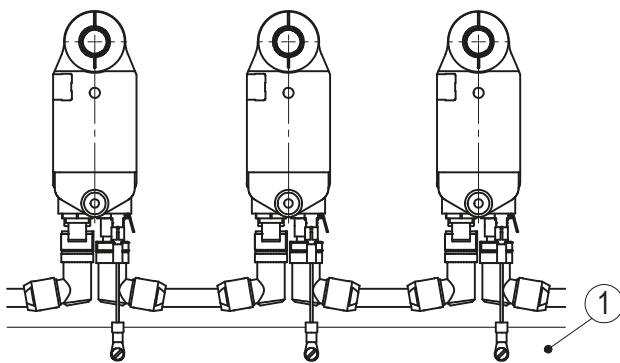

Fig. 8: Ground bar
For protection against interference, the screens of the signal lines and the power line must be connected on both sides. Potential differences cause inadmissible currents on the screen. Apply the Ground connection ① to the protective conductor potential below the connecting plugs (see Fig. 8). Use 6,3 mm flat connectors with short strands 2,5 mm² ... 4 mm² (not in the scope of delivery). For multiple actuators we recommend connecting the earthing to a ground bar ① (see Fig. 8).